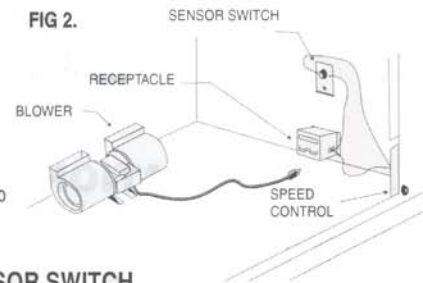

FIG 2.
2. Remove the glass from the unit. Remove the black coloured plug from the hole on the lower right front side (inside the combustion chamber). On the OUTSIDE of the combustion chamber, slide the temperature sensor switch/bracket assembly into position until the bolt engages the hole vacated by the plug. Secure the bracket assembly with the hex nut provided (Fig.2)